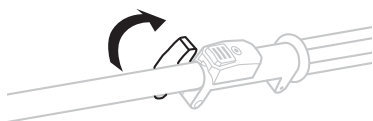

Fig. 6A
2. Loosen the wing knob to release the shaft. (Fig. 6A)